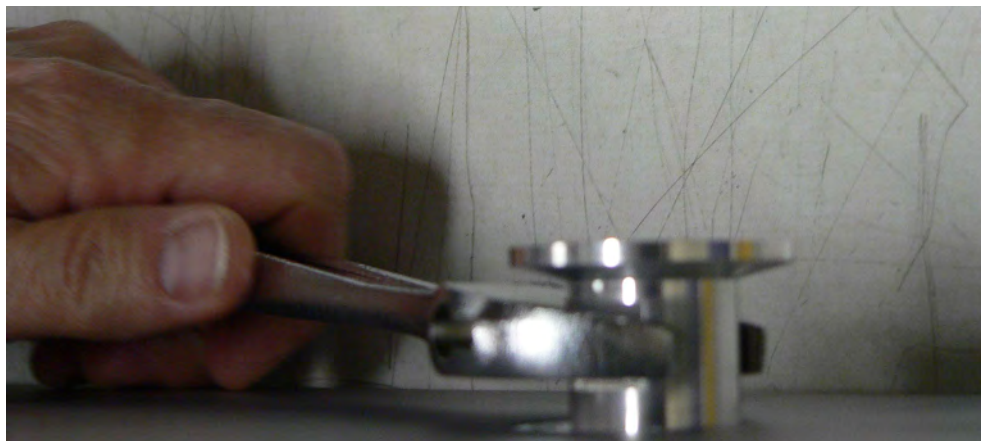

Figure B-7 Test Port Connection
8. Use an adjustable wrench to unscrew the test port connection on the front of the unit (Figure B-7).
12. Use an adjustable wrench to reinstall the test port connection on the front of the unit (Figure B-7 on page B-6).